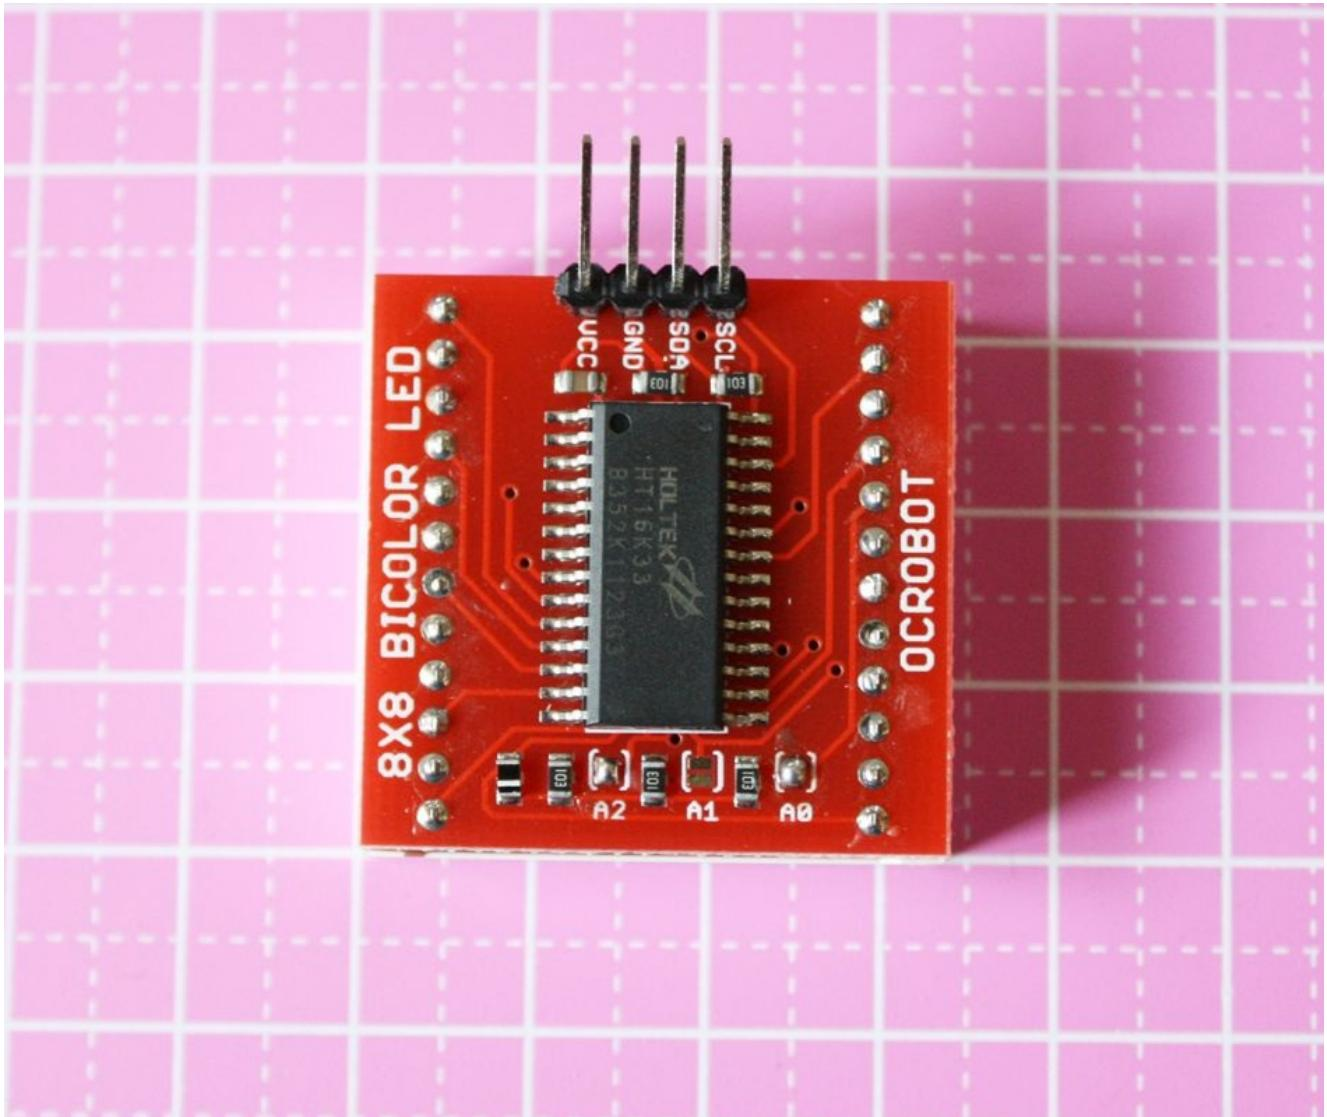

Figure 8-3. Soldering I2C address jumpers
2. Set unique addresses for each of your matrices by soldering across the jumpers on the back of the controller board. For example, Soldering A0 and A2 as shown in Figure 8-3, will set the address to 0x75. Assign addresses to the matrices sequentially from 0x70. Holding the soldering iron close to the pads, touch the solder against the tip of the iron to create a small blob of molten solder, and then quickly transfer the blob of solder to the pads.